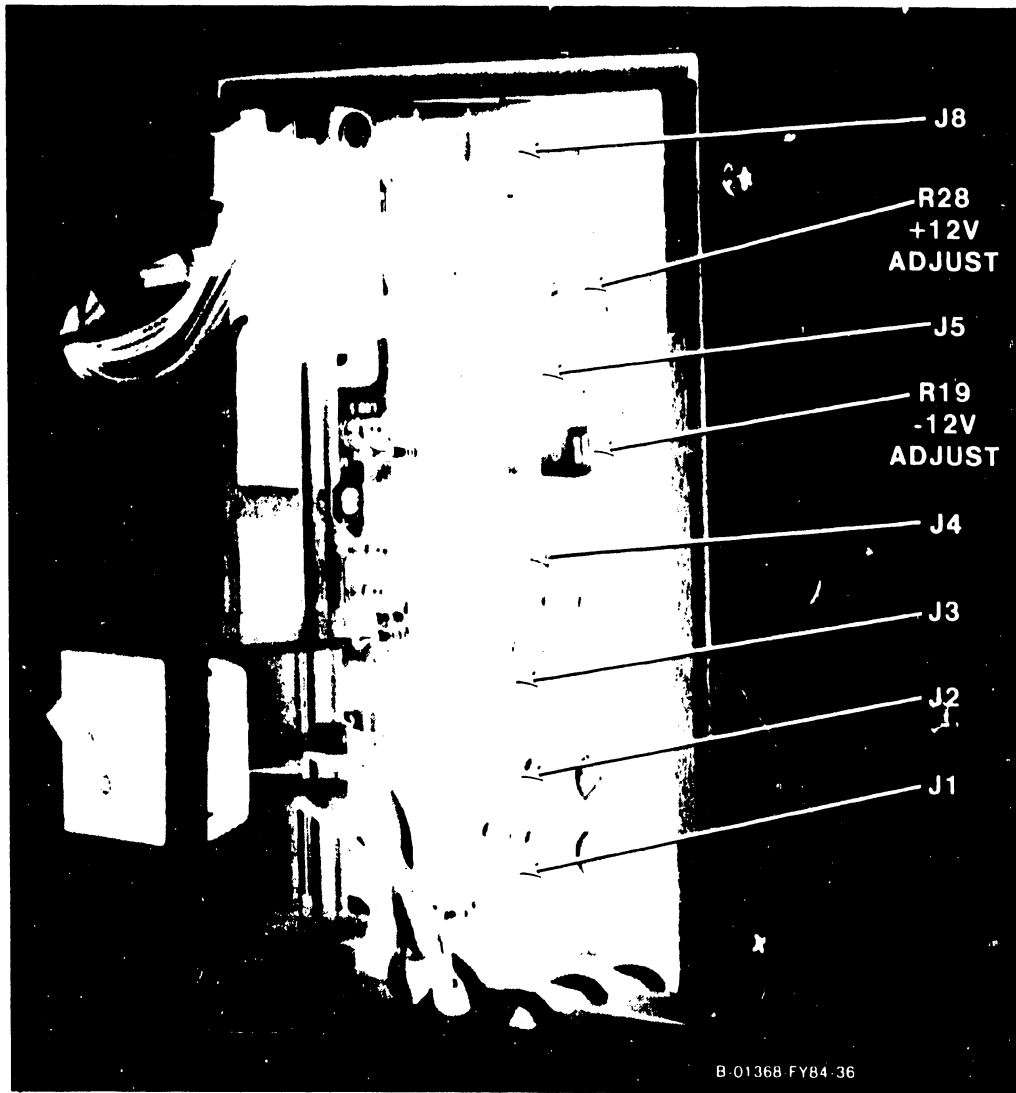

Figure 5-27. Switching Power Supply (Right Side View)
4. Reconnect the signal and power cables to the front of the drive. (The dc power cable goes to the 9-pin connector J4 on the switching power supply. Figures 5-27 and 5-36.)